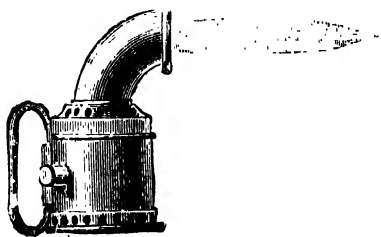
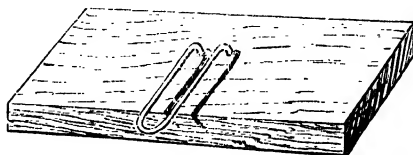
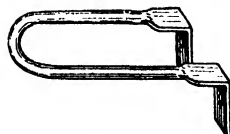
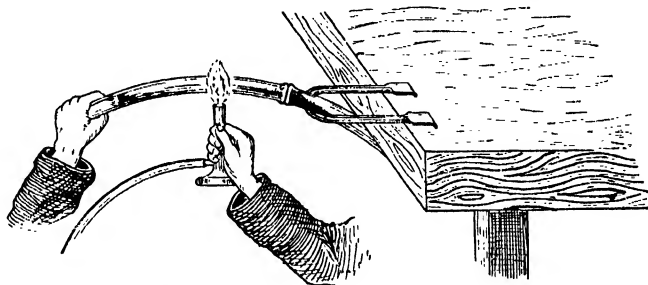

Fig. 30.—Benzoline Blow-lamp.
Fig. 31.—Bamboo Bending Iron in Block.
Fig. 32.—Bending Iron for Bamboos.
Fig. 33.—Method of Bending Bamboo.
cotton threads through the bamboo tube; when the bottle has been half filled with methylated spirit, the lamp is ready for use. The Bunsen burner is the best possible thing for heating, only the heat must not be concentrated too much to one part, but the burner kept continually on the move. A substitute for a spirit lamp or Bunsen burner is a composite candle, well wrapped round with paper from top to bottom; this, when lighted, gives a good flame, although rather smoky; but with care bamboo may be bent very well with it. If a benzoline blow-lamp is used, it should be of simple design; that shown in Fig. 30 is as good as any for the purpose, owing to its simplicity. Benzoline and spirit lamps, however, should be used only when there is not a gas supply, the Bunsen burner being much the best heating appliance. A bending iron is necessary, and may be merely a piece of thick iron wire, bent as in Fig. 31, and fixed in a bench or plank; but the iron shown by Fig. 32 is better; this is made of  $\frac{3}{8}$ -in. rod, the ends being flattened out, bent, and fixed in the bench as in Fig. 33. The iron
**Bending Bamboos : The Method.**—To bend bamboo, pass the end of the cane through the loop of the bending-iron and underneath the top of the bench (Fig. 33), and with the outside end of the cane in one hand, and the Bunsen burner or other heating appliance in the other, bend the cane by a gentle downward pressure, while the part of its surface that is to form the inner curve is made hot by allowing the flame to play upon it as it is passed slowly up and down
(see Fig. 33). Do not concentrate the heat, but move the flame about so that the cane is not burnt. When the cane is sufficiently pliable, a gentle pressure should be able to produce the required curve ; then a wet cloth should be rubbed up and down the cane till it is cold, keeping the cane in the bending iron and continuing the downward pressure. Canes that have been exposed very long to the weather, or that are old, can seldom be bent satisfactorily. Fresh, new canes, as just imported, bend the best. When a sharp bend is required, it will be better to cool down as above described when it is bent to half the requisite curve, and resume the heating and bending after sufficient time has been allowed for the cane to cool. A cane that is bent too quickly is liable to split. When heating preparatory to bending, take care not to burn the canes ; rotating them will prevent this. It is best to make the bend on a part of the bamboo between the knots. But if